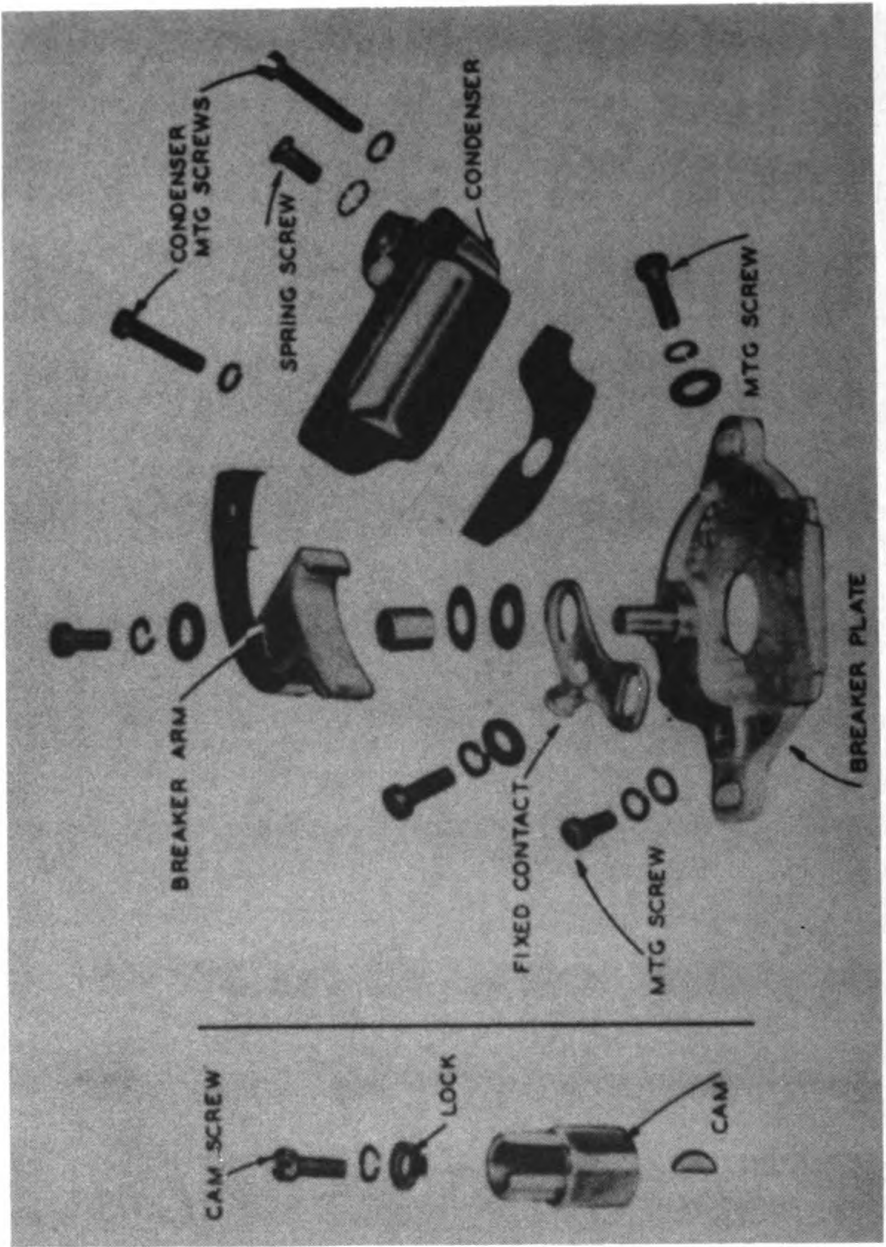
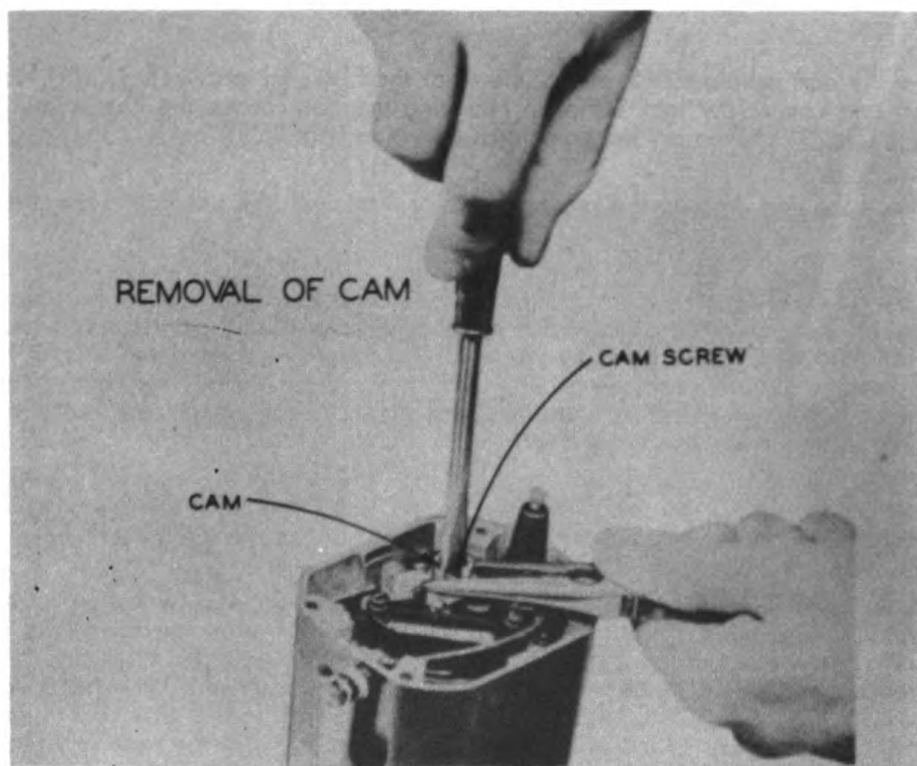

Fig. 121
Fig. 122
If the points need replacing, it is recommended that both the fixed contact and breaker arm be replaced at the same time (Fig. 121). After assembly the points should be adjusted as described in the beginning of this section.
If it is desired to remove the breaker assembly as a complete unit disconnect the ground lead and insulated primary coil lead from the breaker spring screw. Remove the two breaker assembly screws, lockwashers, and plain washers which hold the breaker plate to the housing and lift out the complete breaker assembly. When replacing the breaker plate make certain that the witness marks line up as shown in (Fig. 121).
To remove the condenser remove the breaker arm spring screw, and the two leads under it. Then take out the two condenser screws, and lockwashers, after which the condenser may be lifted off the breaker plate. When replacing the condenser, make certain that the condenser case gasket is in place (Fig. 121).
**CAM**—The cam is held to the end of the rotor shaft by cam screw, (Fig. 121) lock-washer, and cam screw lock plate. In removing the cam loosen the cam screw as shown in (Fig. 122) then pry the cam off as shown in (Fig. 123).